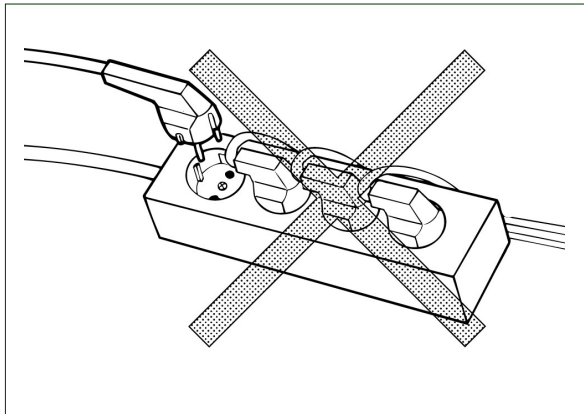

Fig. 2
*When selecting the socket, observe the requirements stated in section 4.6. The cabinet must not be plugged into a multiple-outlet power strip (see fig. 2).*